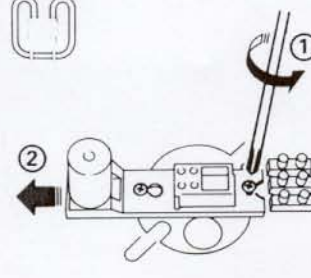

Fig.4
4. Remove appropriate knockout (Fig 4).